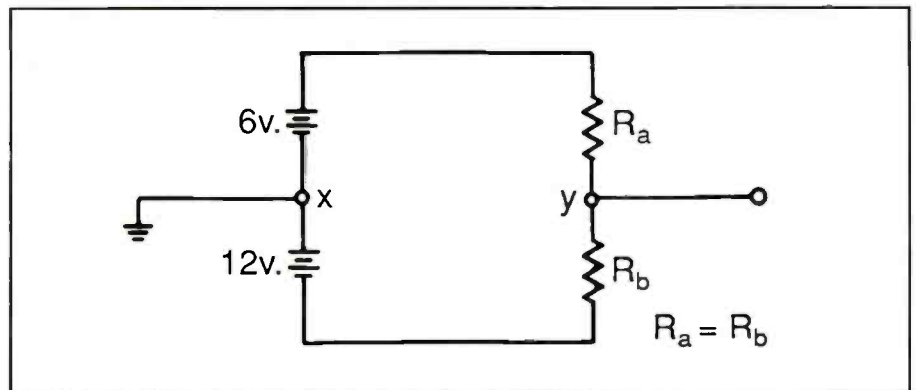

Figure 2. Diagram of a circuit.
10. In the circuit of Figure 2, what is the voltage between point A and ground?